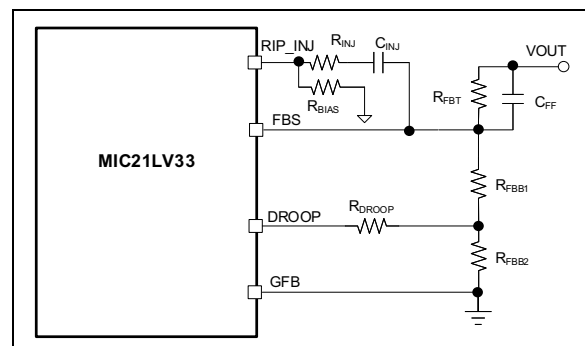

FIGURE 4-19: AVP Implementation for 5V Output with 2% AVP Range for DROOP Pin Range 0V to 600 mV.
The part of the schematic to implement the AVP for a 5V output is shown in Figure 4-19. The underlying assumption is that the current sense is done using sense resistors independent of temperature.
Step 3: The R_{FBB1} is slightly adjusted to get $V_{OUT} \cdot (1 + \epsilon)$ for $I_{OUT} = 0A$. The result is in Figure 4-19.